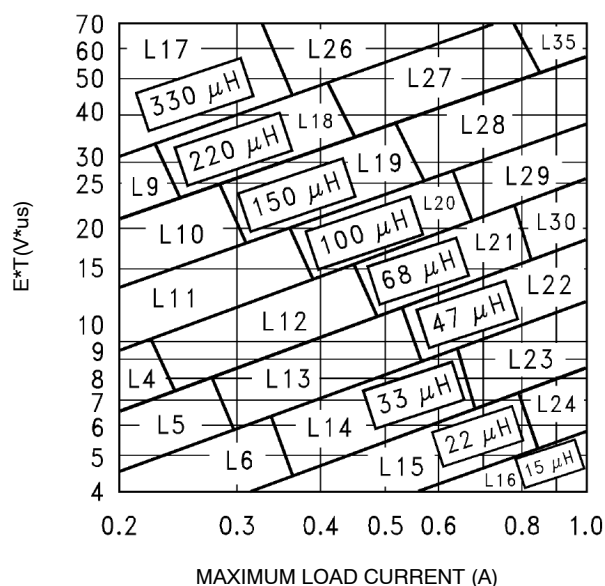

Figure 19. Inductor Value Selection Guides (For Continuous Mode Operation)
<p>4. Inductor Selection (L1)</p> <p>A. Use the following formula to calculate the inductor Volt x microsecond [V x μs] constant:</p> $E \times T = (V_{IN} - V_{OUT} - V_{SAT}) \times \frac{V_{OUT} + V_D}{V_{IN} - V_{SAT} + V_D} \times \frac{1000}{150 \text{ kHz}} (V \times \mu s)$ <p>B. Match the calculated E x T value with the corresponding number on the vertical axis of the Inductor Value Selection Guide shown in Figure 19. This E x T constant is a measure of the energy handling capability of an inductor and is dependent upon the type of core, the core area, the number of turns, and the duty cycle.</p> <p>C. Next step is to identify the inductance region intersected by the E x T value and the maximum load current value on the horizontal axis shown in Figure 19.</p> <p>D. Select an appropriate inductor from Table 3. The inductor chosen must be rated for a switching frequency of 150 kHz and for a current rating of $1.15 \times I_{L\text{Load}}$. The inductor current rating can also be determined by calculating the inductor peak current:</p> $I_{p(\text{max})} = I_{L\text{Load}(\text{max})} + \frac{(V_{in} - V_{out}) t_{on}}{2L}$ <p>where t_{on} is the "on" time of the power switch and</p> $t_{on} = \frac{V_{out}}{V_{in}} \times \frac{1.0}{f_{osc}}$	<p>4. Inductor Selection (L1)</p> <p>A. Calculate E x T [V x μs] constant:</p> $E \times T = (12 - 5 - 1.0) \times \frac{5 + 0.5}{12 - 1 + 0.5} \times \frac{1000}{150 \text{ kHz}} (V \times \mu s)$ $E \times T = (6) \times \frac{5.5}{11.5} \times 6.7 (V \times \mu s)$ <p>B. E x T = 19.2 [V x μs]</p> <p>C. $I_{L\text{Load}(\text{max})} = 1.0 \text{ A}$ Inductance Region = L30</p> <p>D. Proper inductor value = 68 μH Choose the inductor from Table 3.</p>
To simplify the inductor selection process, an inductor selection guide for the LM2595 regulator was added to this data sheet (Figure 19). This guide assumes that the regulator is operating in the continuous mode, and selects an inductor that will allow a peak-to-peak inductor ripple current to be a certain percentage of the maximum design load current. This percentage is allowed to change as different design load currents are selected. For light loads (less than approximately 300 mA) it may be desirable to operate the regulator in the discontinuous mode, because the inductor value and size can be kept relatively low. Consequently, the percentage of inductor peak-to-peak current increases. This discontinuous mode of operation is perfectly acceptable for this type of switching converter. Any buck regulator will be forced to enter discontinuous mode if the load current is light enough.